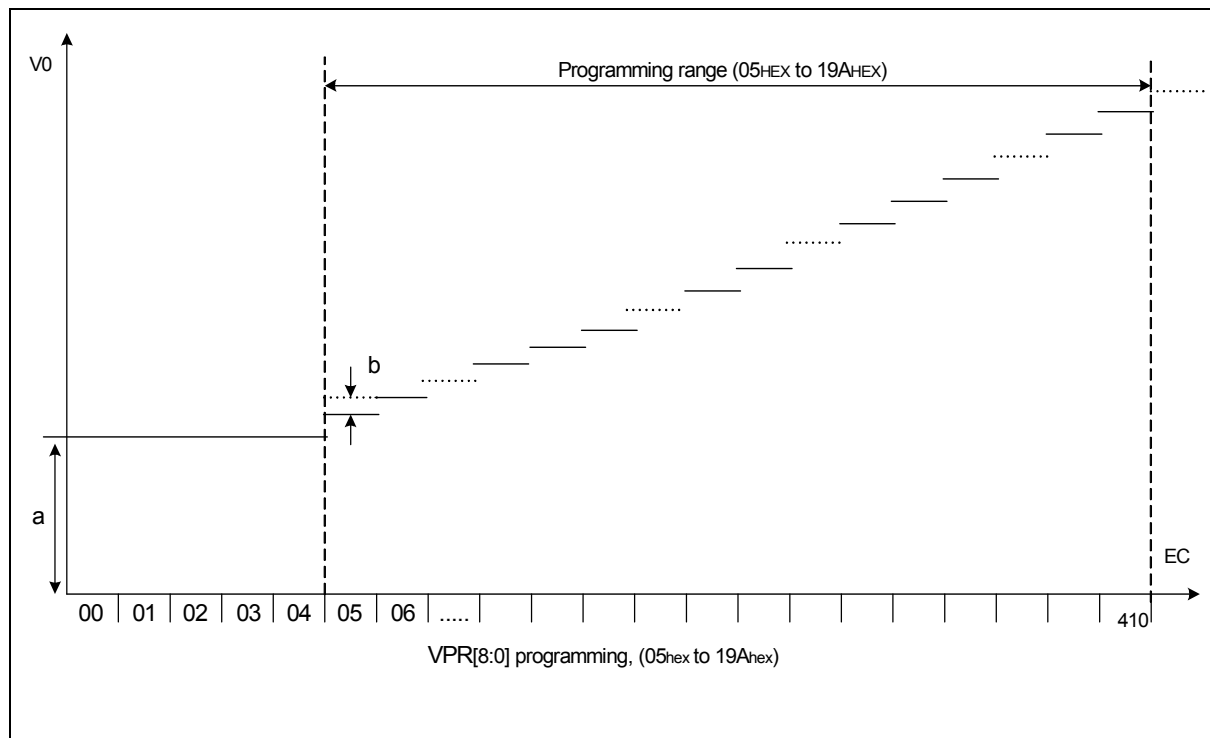

Fig. 8.10.2 V0 programming range
The VPR[8:0] value must be in the V0 programming range as given in Fig.8.10.2. Evaluating equation (1), values outside the programming range indicated in Fig.8.10.2 may result.